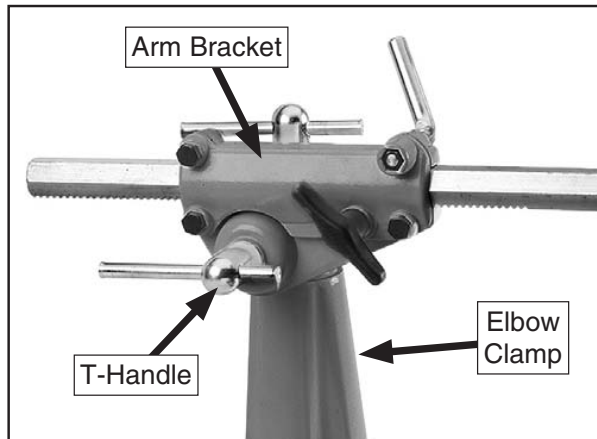

Figure 13. Arm bracket and elbow clamp assembly.
15. Position the arm bracket onto the elbow clamp, as shown in **Figure 13**.
16. Thread the T-handle into the elbow clamp so both assemblies are secure, as shown in **Figure 13**.